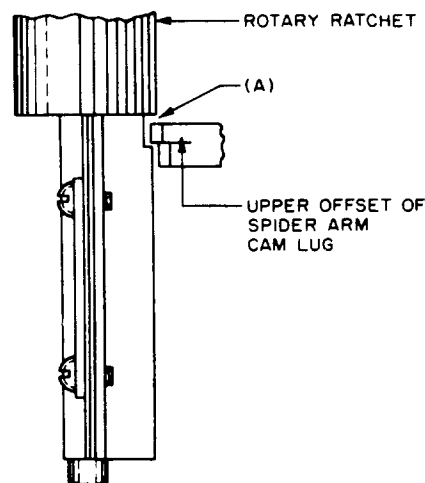

Fig. 6 - Clearance Between Rotary Ratchet and Upper Offset of Spider Arm Cam Lug
Fig. 6 (A) — With the shaft up one step and the spider arm in second position, there shall be a clearance between the upper offset of the spider arm cam lug and the rotary ratchet of 0.015 inch.